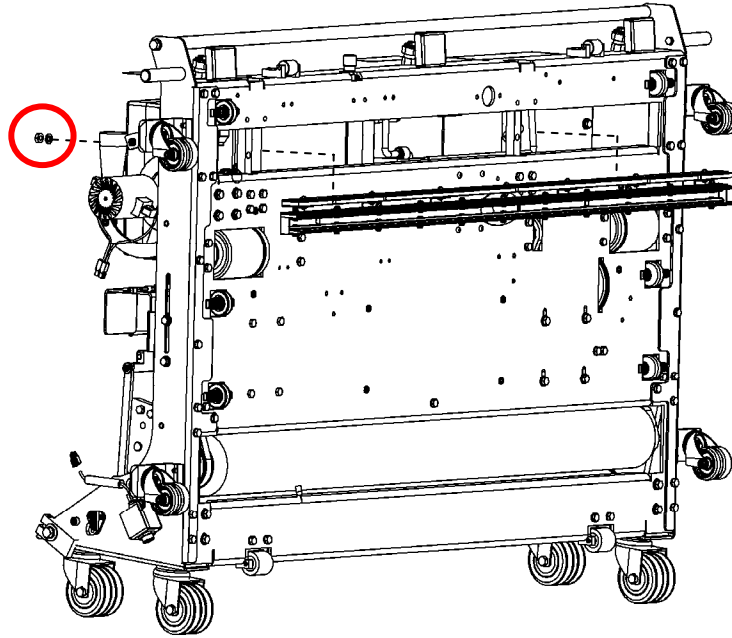

Figure 4-18a
3. Remove the two nuts and washers to release the vacuum head from the pivot arms, and remove the vacuum head from the **underside** of the machine as shown in Figure 4-18a.